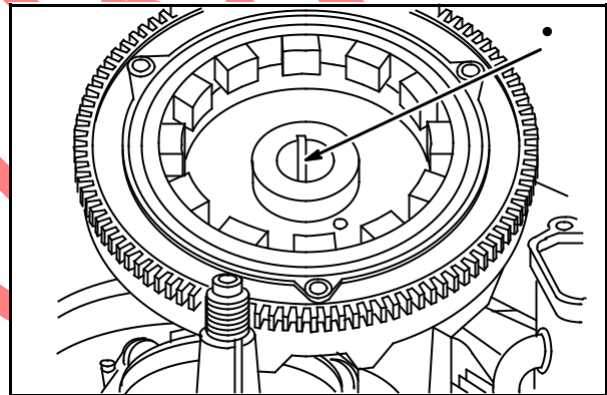

Fig. 3
Check flywheel keyway (1) for damage. Replace flywheel if it has cracks, broken fins or keyway damage, **Fig. 3**.